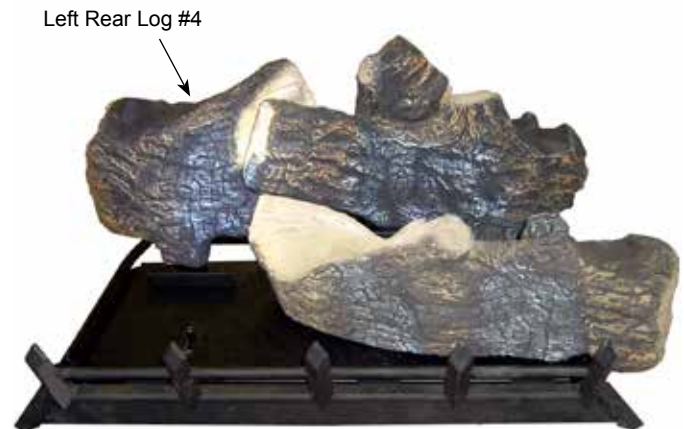

Figure 25 - Place Left Rear Log #4
4. Place left rear log (#4) on pin located on rear support bracket on left side. *Figure 25*